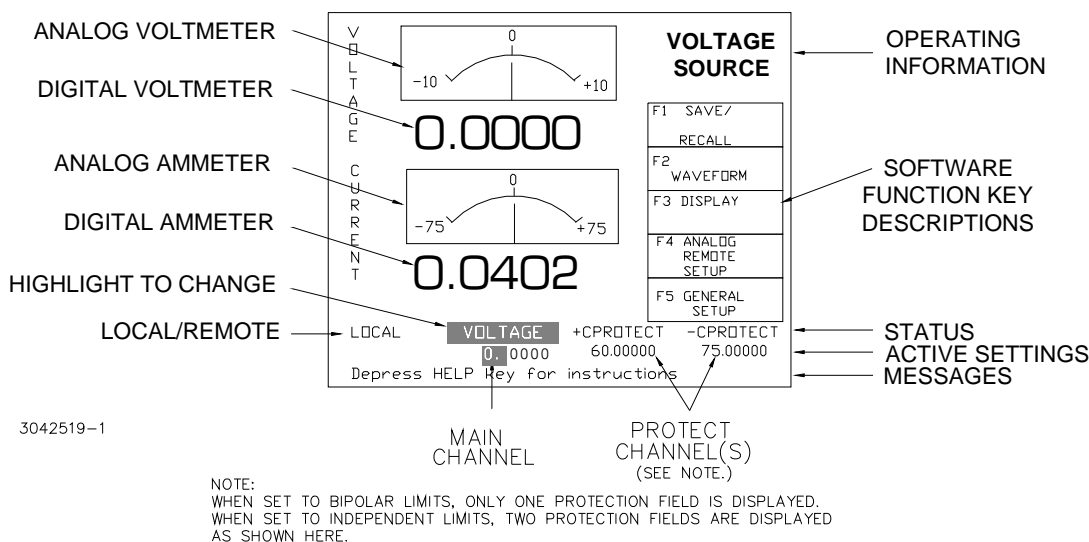

FIGURE 5. POWER-UP SCREEN SHOWING GRAPHIC METERS
- When the power supply is turned on, it performs a brief self-test that includes testing the three processors (analog, interface and display), then displays the power-up screen (see Figure 5). If an error is detected, the FAULT indicator will light, information about the error will be briefly displayed on the LCD.
ADJUSTING LCD BRIGHTNESS, CONTRAST AND BACKGROUND From the power-up screen, (Figure 5), press **F3** twice to initiate contrast adjustment. The contrast gradually alternates between light and dark. When the contrast is acceptable, press **F3** to apply the change and exit contrast adjust. Use the **→** and **←** keys for fine adjustment of contrast. Contrast can also be adjusted from the power-up screen by pressing **F3** once, then pressing **→** and **←** as needed for fine adjustment.